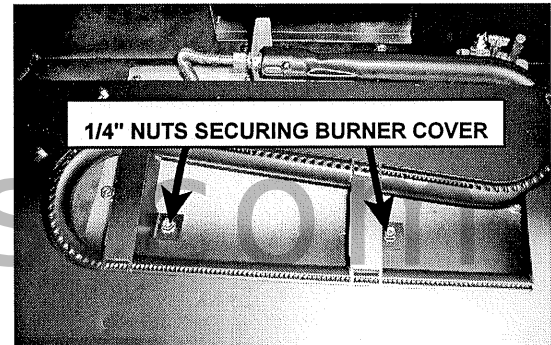

Figure C-2
- A) Remove the burner cover by lifting the front of the cover up, then carefully slide the burner tube off the orifice. Remove entire assembly from the firebox. **Figure C-2.**